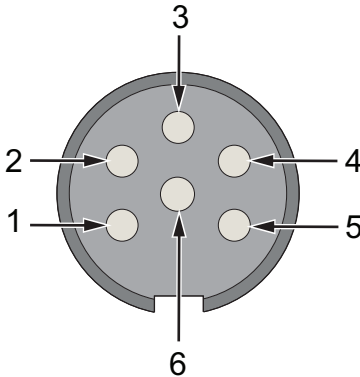

Figure 3-45: Loop Out Connector
**Note:** Figure 3-45 represents the view of the connector from the back of the printer.